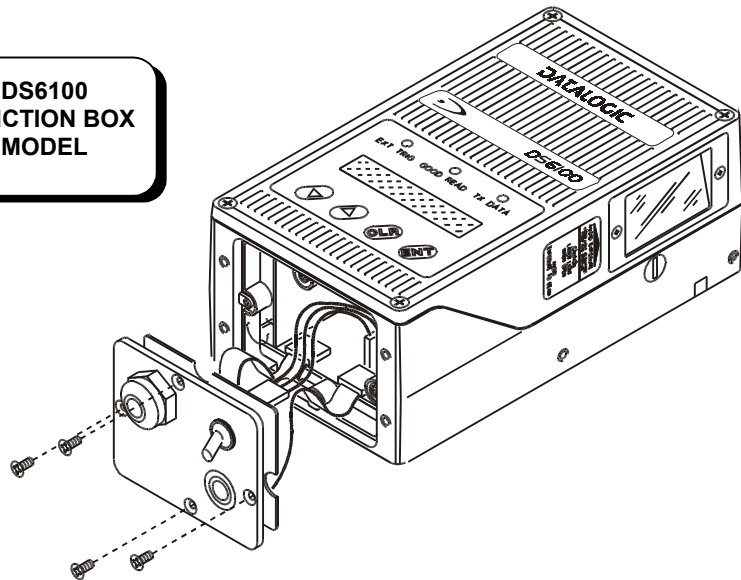

Figure 2 - Opening the DS6100
Refer to the following instructions and refer to Figure 2 when opening the reader:
3. Carefully remove the panel as shown in Figure 2. Pay attention not to stretch the cables between the panel and the scanner.